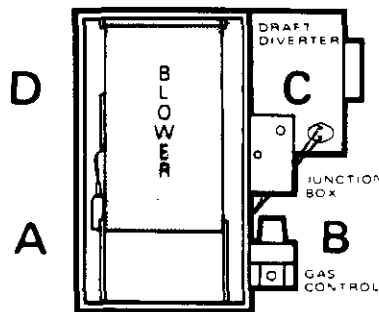

Figure 27 (4-015)
1. Connect even ends of VLS blue wires to VLS terminals. See Figure 27.